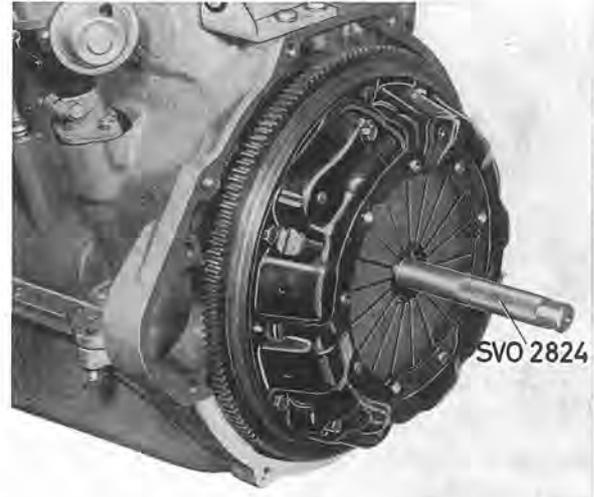

Fig. 4-8. Fitting the clutch
1. Set up the clutch plate (the longest side of the hub facing backwards) together with the clutch against the flywheel and insert the centering mandrel SVO 2824 so that the guide journal on this centers the pilot bearing in the flywheel, see Fig. 4-8.